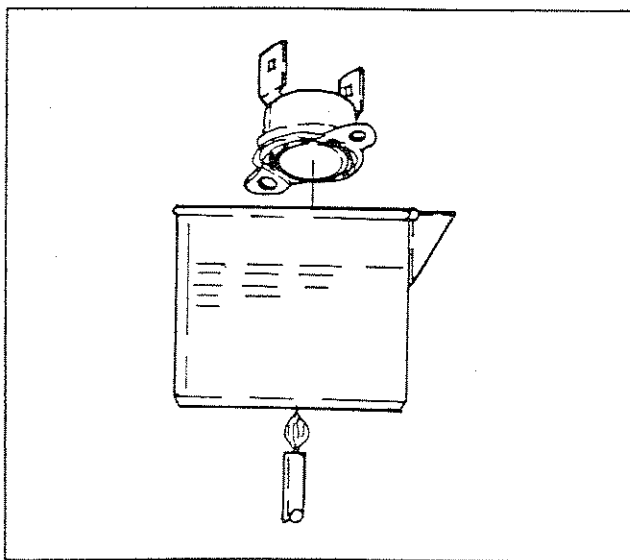

Figure 18. Testing the Oil Temperature Switch
3. Immerse the sensing tip of the switch in oil as shown in Figure 18, along with a suitable thermometer.